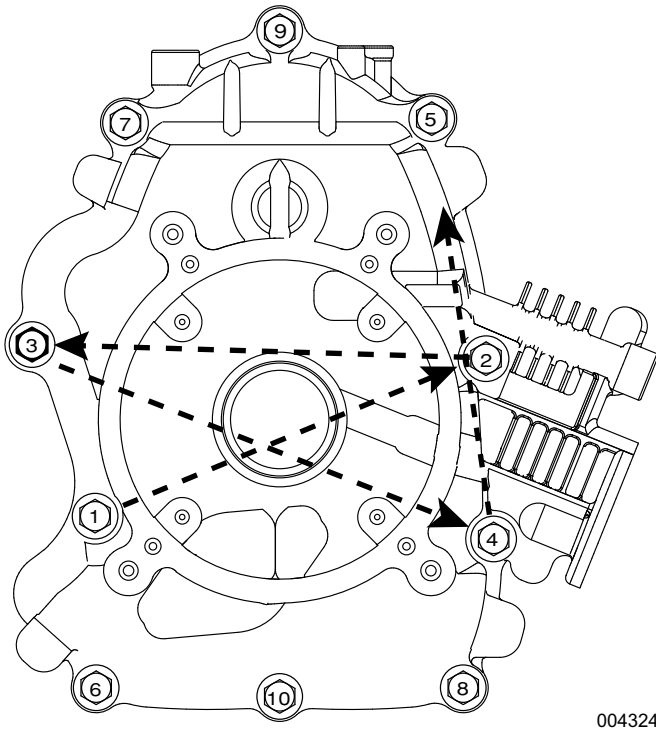

Figure 13-9. Crankcase Cover Torque Sequence
- b. See **Figure 13-9**. Tighten screws in sequence shown to 35 ft-lb (47.5 Nm) torque.